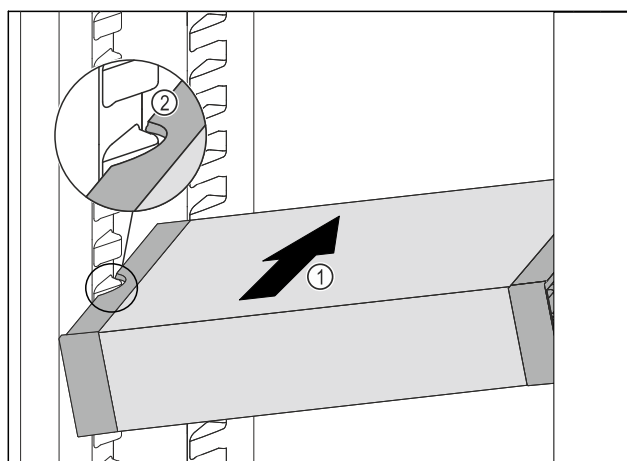

Fig. 123
- Insert the VarioSafe into the fridge section at an angle Fig. 123 (1) until the recesses in the side Fig. 123 (2) of the VarioSafe are at the level of the support rib in the fridge section.